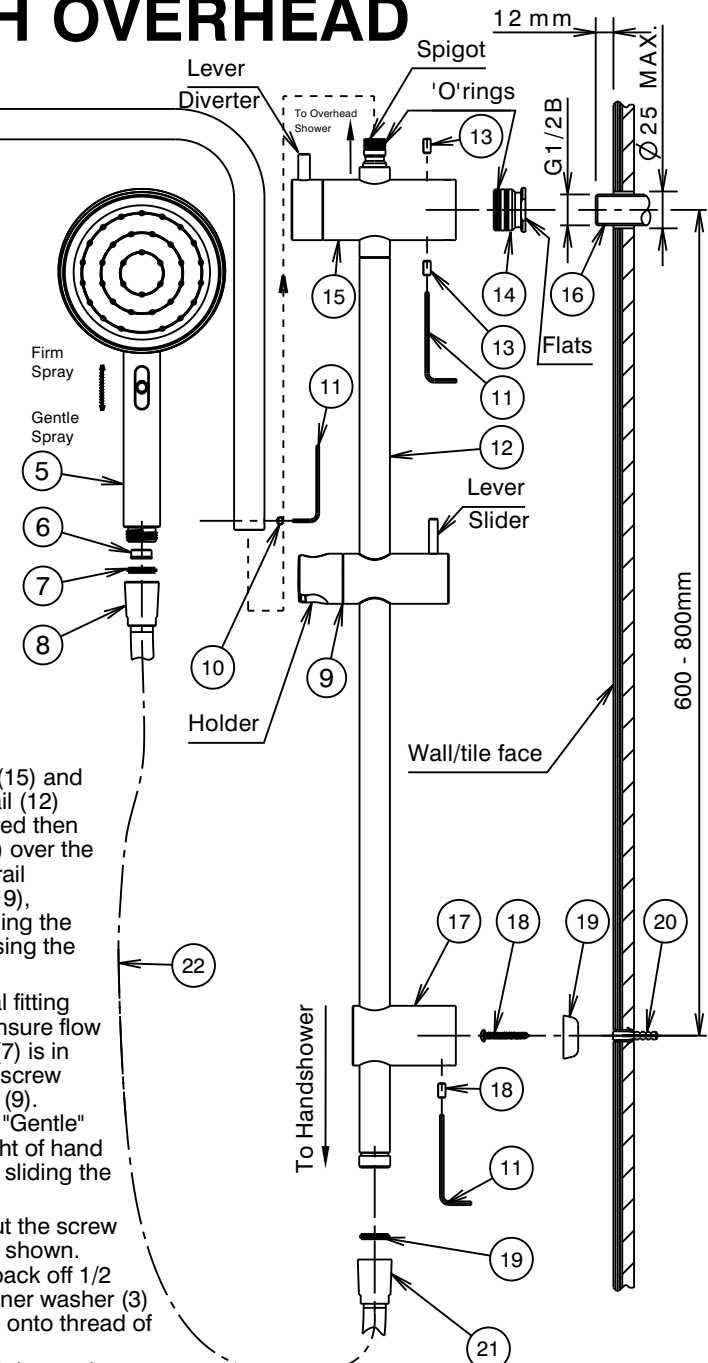

Fig. 1
2) Screw adaptor (14) onto threaded nipple (16) until adaptor (14) is held securely against wall/tile face. **DO NOT OVERTIGHTEN.** Apply suitable lubricant to 'O'Rings on adaptor (14).
3) Mark the position for the shower rail mounting post (17) at a suitable distance from the threaded nipple (16). (Fig 1.)